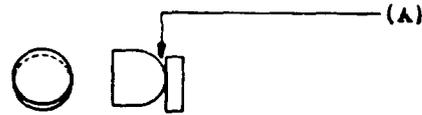

Fig. 4 — Contact Alignment
2.06 Contact Alignment Fig. 4(A) — The point of contact shall line up so that it is not off the center of the armature contact disc more than 1/64".